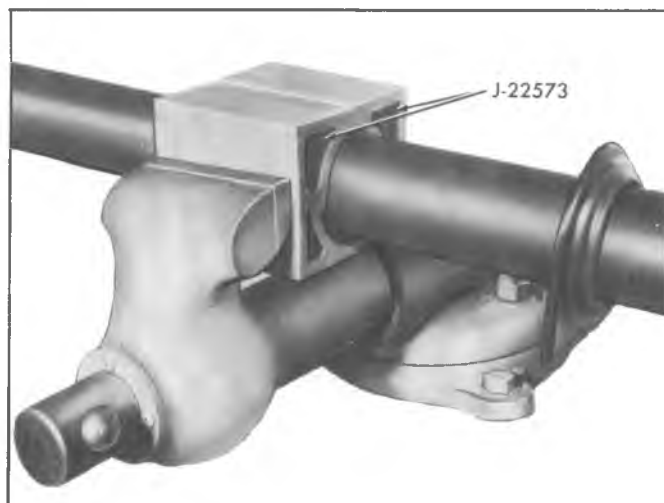

Fig. 21—Securing Column with J-22573
1. If the column is removed from the vehicle, place the column in a bench vise using Holding Fixtures J-22573 (fig. 21).